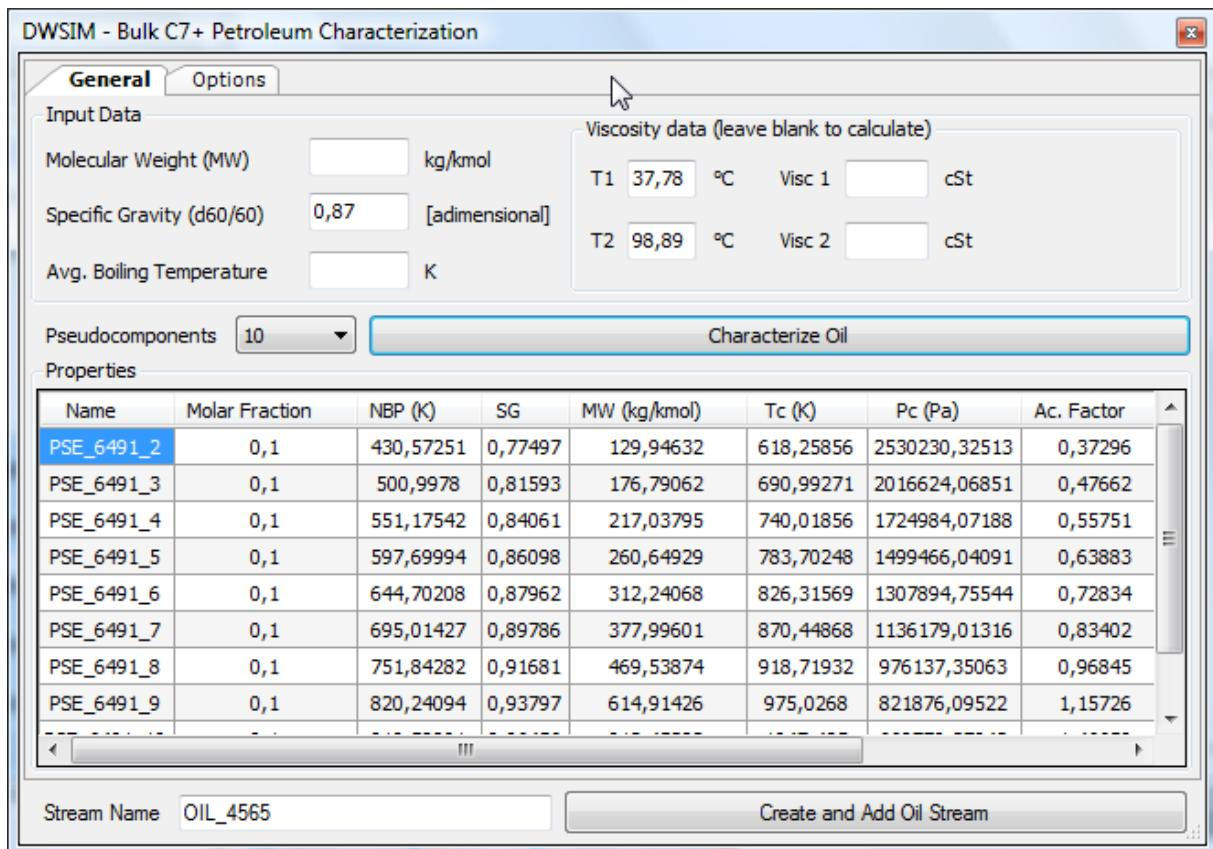
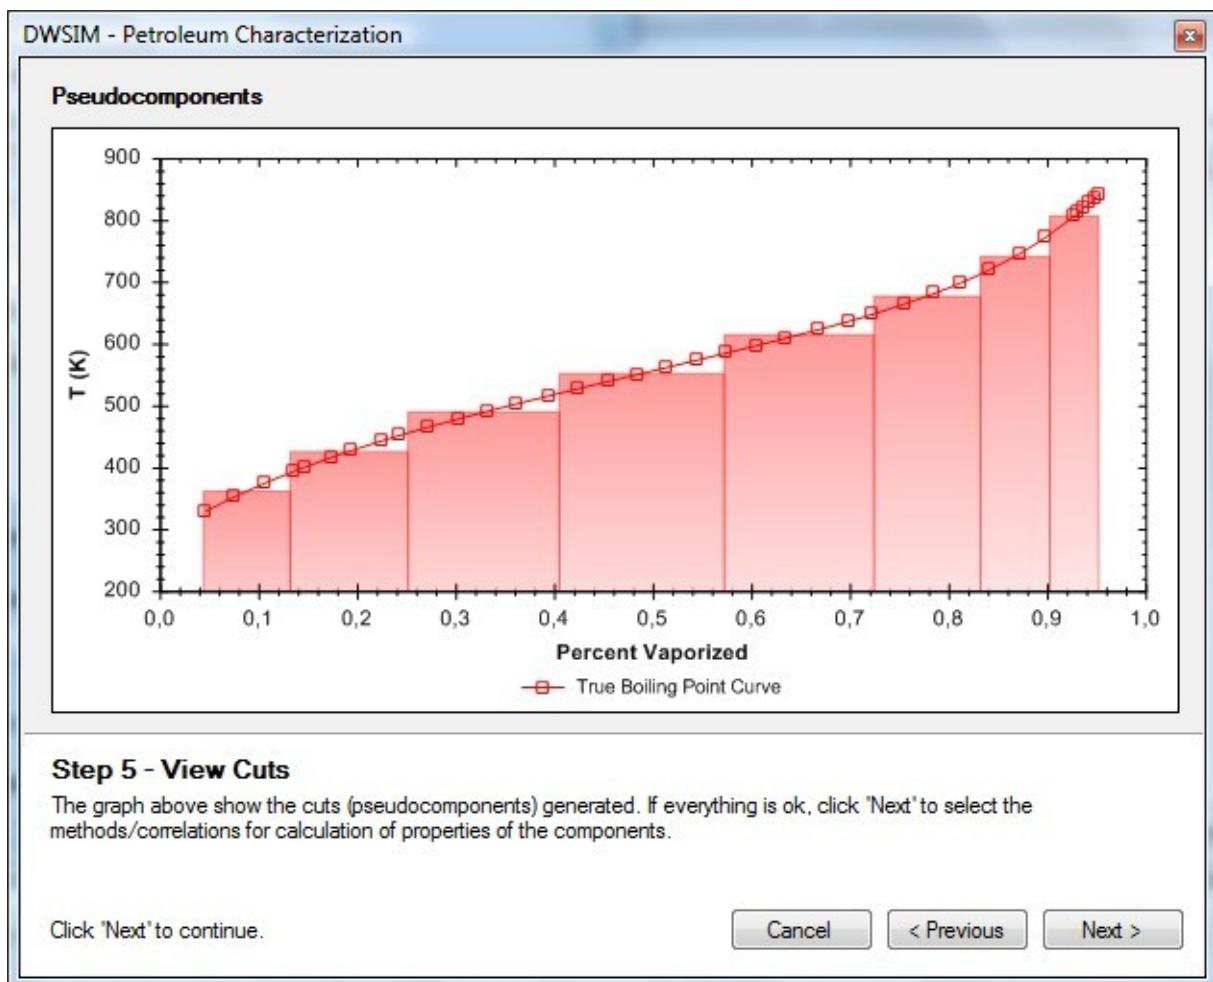

Figure 48: C7+ petroleum fraction characterization utility.
Figure 49: Characterizing petroleum from distillation curves.
DWSIM provides two tools for characterization of petroleum fractions ("Simulation Settings" > "Tools" > "Petroleum Characterization"). One of them characterizes C7+ fractions from bulk properties (Figure 48). The other characterizes the oil from an ASTM or TBP distillation curve (Figure 49).
- **Characterization from bulk properties** The method itself requires a minimum of information to generate the pseudocomponents, though the more data the user provides, the better will be the results (Figure 48). It is recommended that the user provides the specific gravity of the C7+ fraction at least. Viscosity data is also very important.
The interface has a wizard-like style, with various customization options (Figure 49):